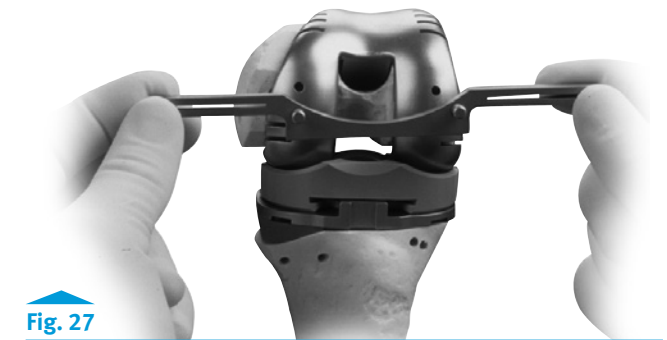

Fig. 27
- Insert the tabs of the Revision Rotational Alignment Guide into the posterior augment resection slots of the Femoral Provisional/Cutting Guide (Fig. 27).